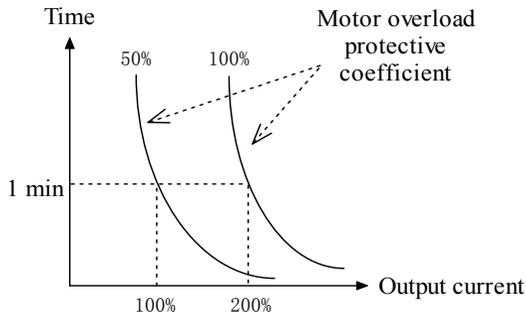

Figure. 5-13-1 Motor overload protection curve
- ◆ In order to apply effective overload protection to different kinds of motors, the max output current of the inverter should be adjusted as shown in Figure.5-13-1.